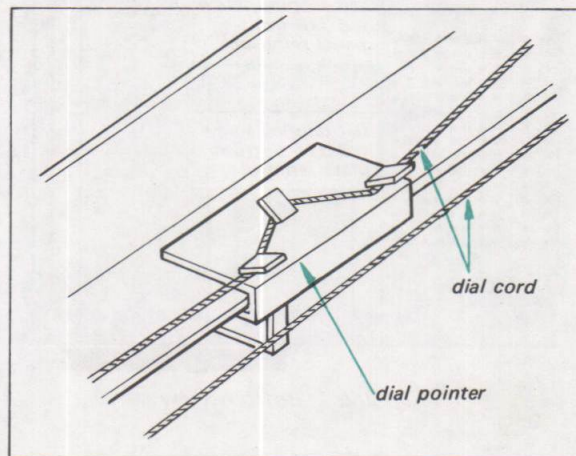

Fig. 2-9. Dial pointer installation
8. Put the dial pointer on the cord as shown in Fig. 2-9, and then tune the set to the local fm station. Move the dial pointer to the position where the dial indication coincide with the local station's carrier frequency. Apply a drop of contact cement to it.